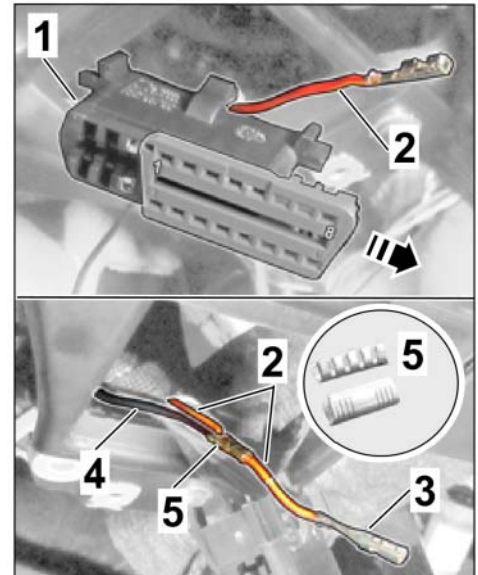

Figure 18
- Release diagnostic socket and remove line 112 RD/YE 0.5² from chamber 1 (⇒ *Figure 18 -top-*).
- Crimp BK 0.5² line to line 112 RD/YE 0.5² in the insulated area using a crimp connector (⇒ *Figure 18 -bottom-*).
- Expose (2-pin) socket underneath the dashboard (LHD: in steering column area ⇒ Figure 18).